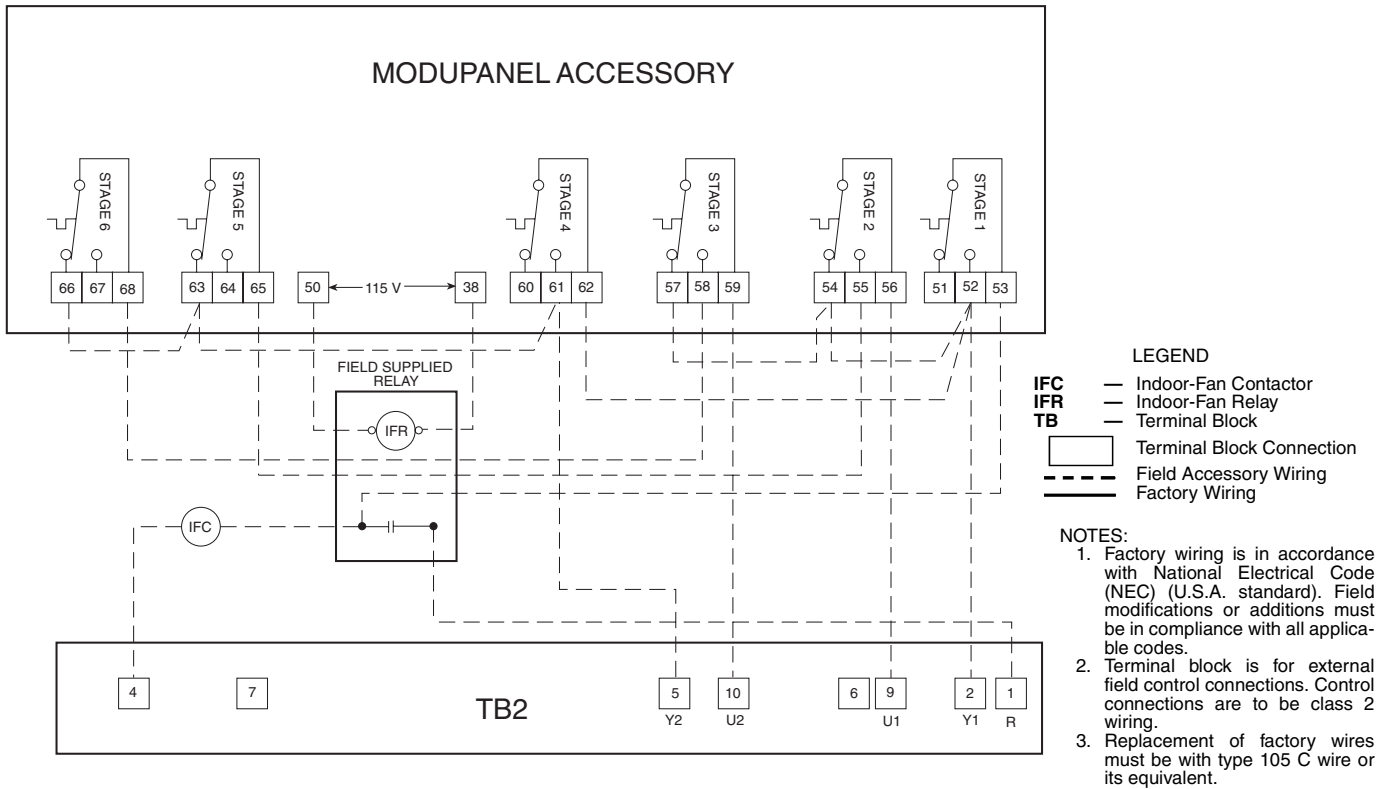

Fig. 14 — Typical 38AH Unit Field Wiring — ModuPanel™ Controller with 38AH024-034 Dual-Circuit Condensing Unit and Air Handler
- ModuPanel™ Control Connections (38AH units)** — Refer to Fig. 14 and 15 for field connections.